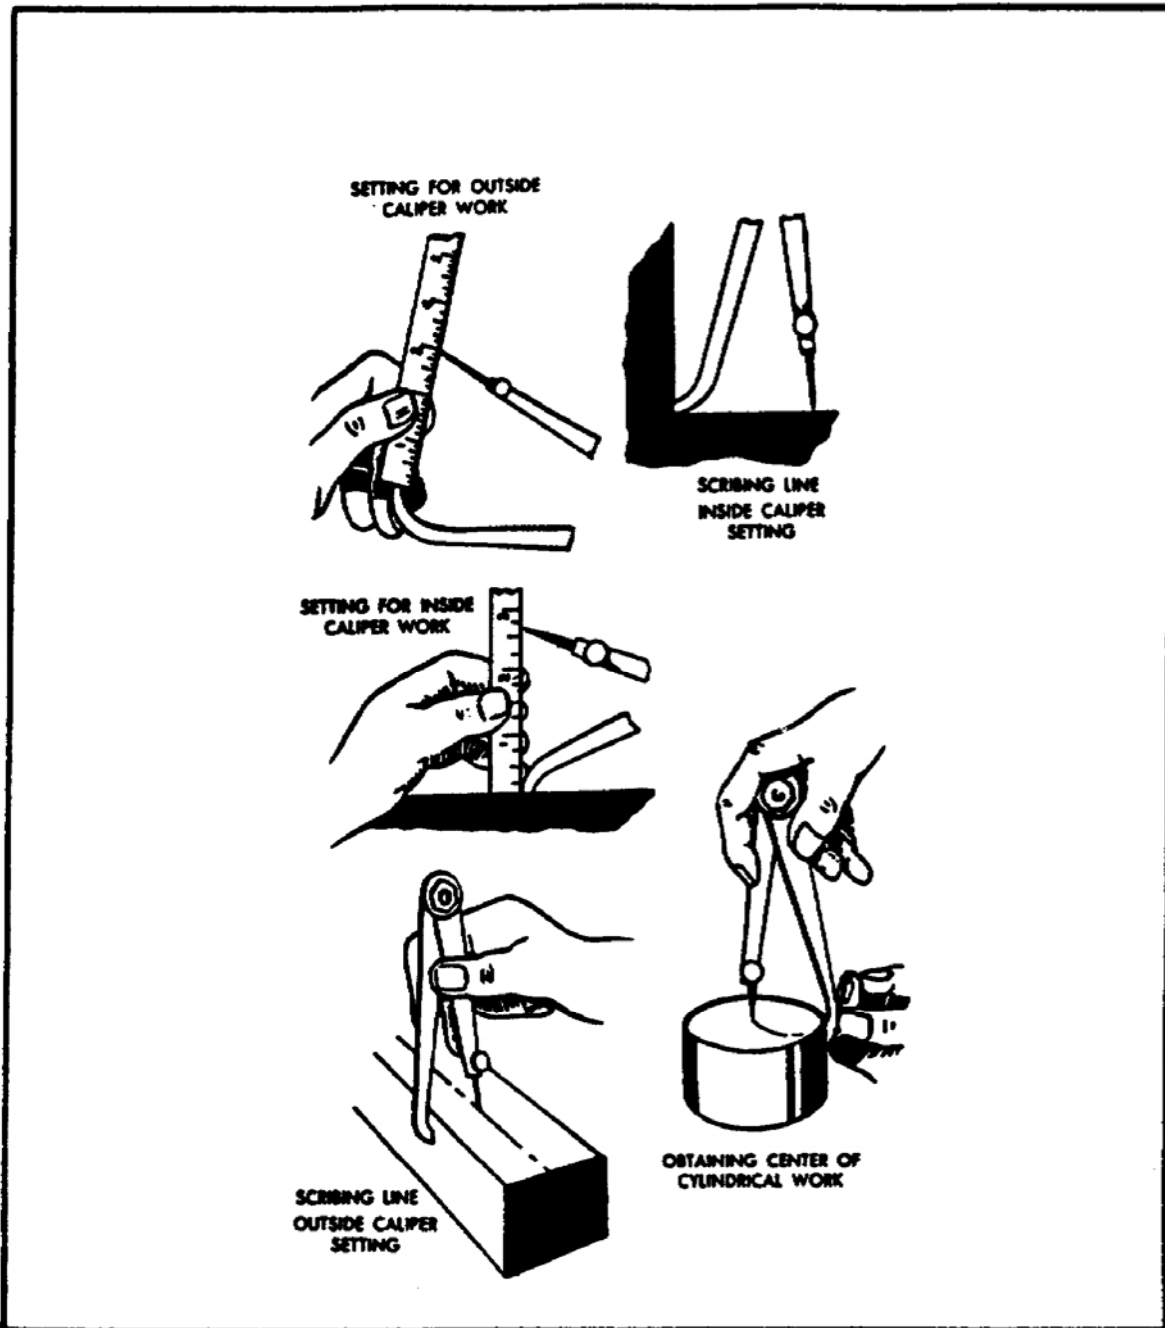

FIGURE 185. SETTING AND USING A HERMAPHRODITE CALIPER.
(3) *Hermaphrodite Calipers*. The hermaphrodite caliper is adjusted and set in the same manner as the outside and inside caliper, depending on the position and intended use of the caliper leg, as shown in figure 185.